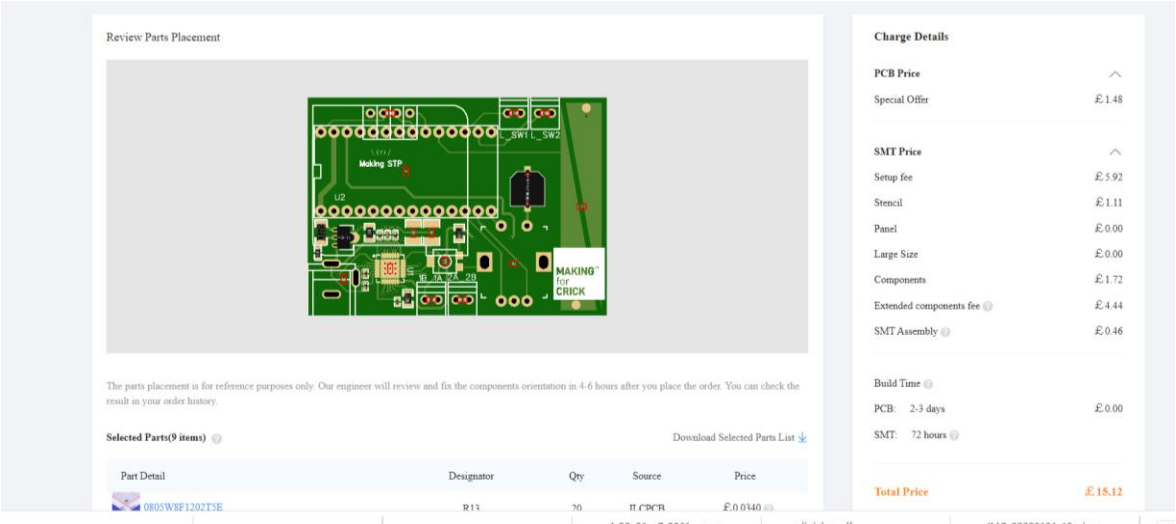

Figure 7: BOM and Pick and place upload.
- f. Click save to card (Here you will be able to see all the parts they have in stock and which can be populated) It could happen that some parts are not currently in stock in that case we suggest to buy them and solder them manually after the parts are received (Figure 7):